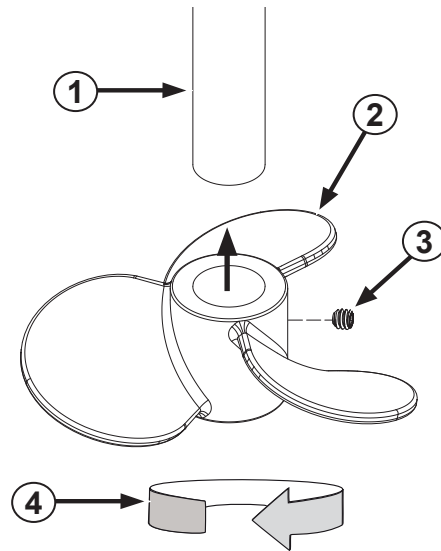

Figure 7. Propeller
It is important to install the propeller blades in a specific orientation, see rotation (4) in "Figure 7. Propeller" below.